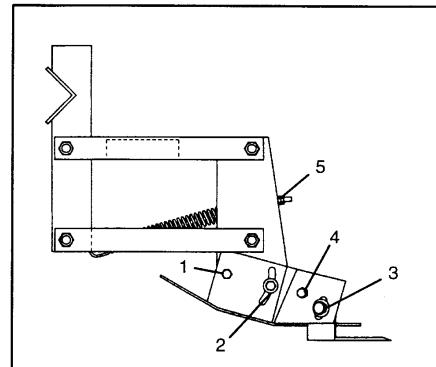

Figure 36a. Knife Scalper (Down Pressure)
- a. Loosen bolts (1) and (2), Figures 36a, 36b & 36c.
- a. Loosen bolts (3) and (4), Figures 36a & 36b.
- a. Increase spring tension to decrease skipping (5).
- a. Increase spring tension for less pressure on shoe (5).